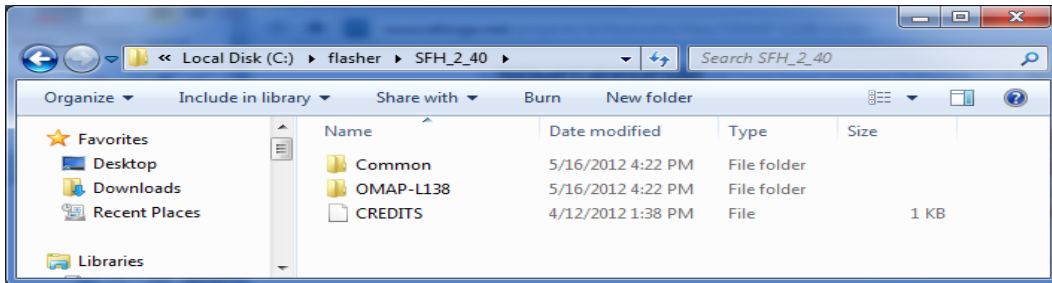

Figure 3.1: Directory File Structure
3. Download the Flash Loading Utility for the OMAP-L138 and extract the contents to the *C:\flasher\SFH_2_40* directory, as shown below in Figure 3.1 below.